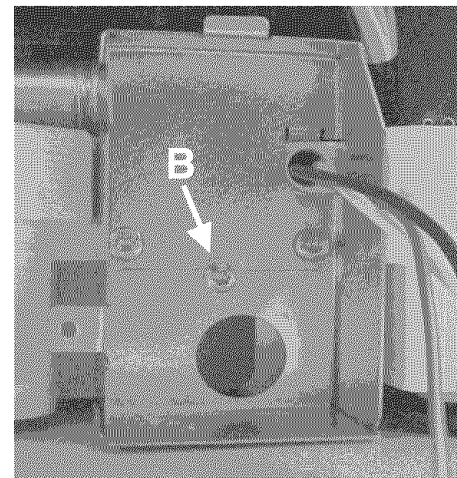

Figure 13
- 2) Remove the strain relief plate by removing the screw at the back of the junction box, as shown in Figure 13, letter B and sliding the strain relief plate out.